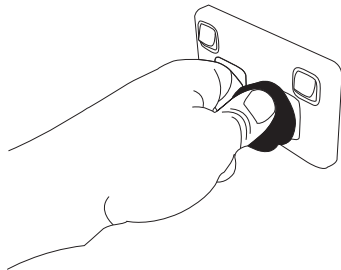

Fig 5
15. Force the hose over the hose tail on the U pipe. Tighten, hand tighten only no tools are required. Fig 5
16. Use the double ended pipe brush and clean the inlet tube which runs through the base of the head unit. Fig 5